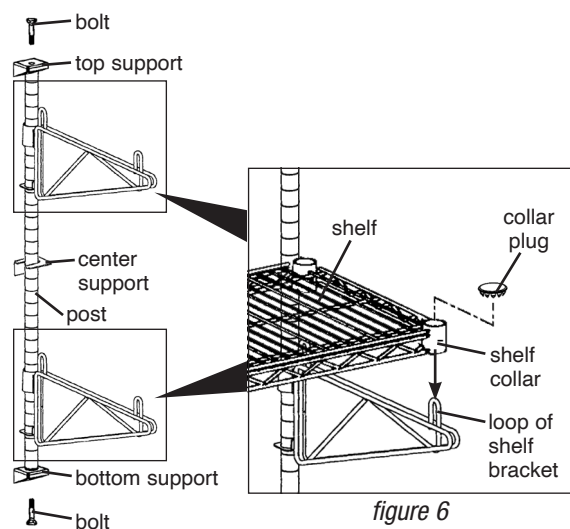

figure 5
- Install post/bracket assemblies to supports, using bolts provided (see figure 5).